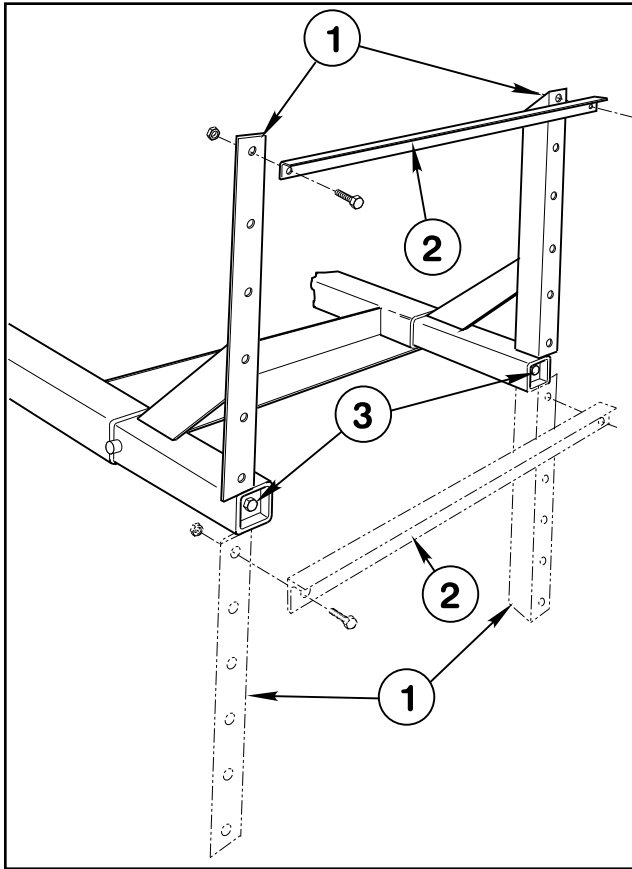

FIG. 6
NOTE: Note the position of the angle member of the Boom Mount Assemblies, in relation to the tube member. They must be positioned as shown, for the mounting of the Cross Support Angle. See FIG. 6.
1. Apply a heavy coating of grease to the tubes of the two Boom Mount Assemblies and insert them into the Vehicle Frame as shown in FIG. 6.